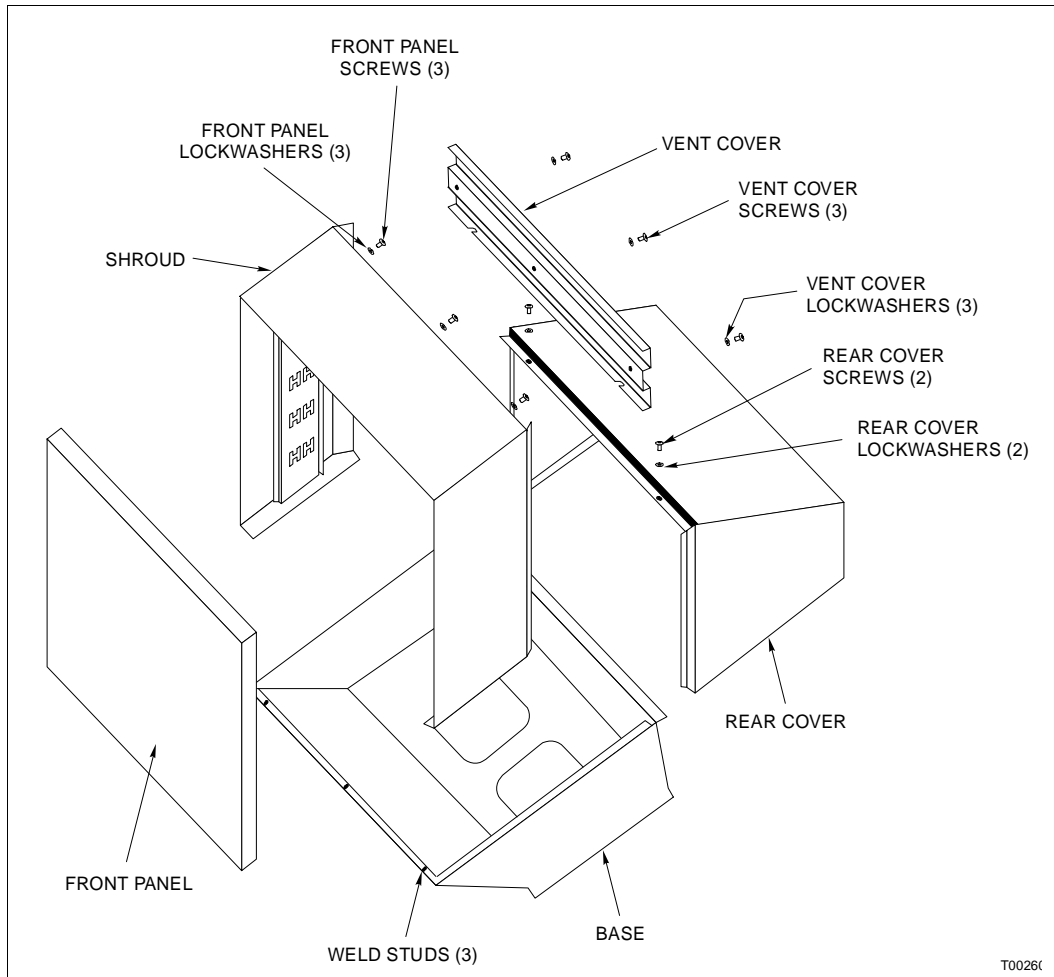

Figure PR32-1. Auxiliary Panel
- 1. Use the 2.5-mm socket driver to remove the three vent cover screws and lockwashers (Fig. PR32-1).